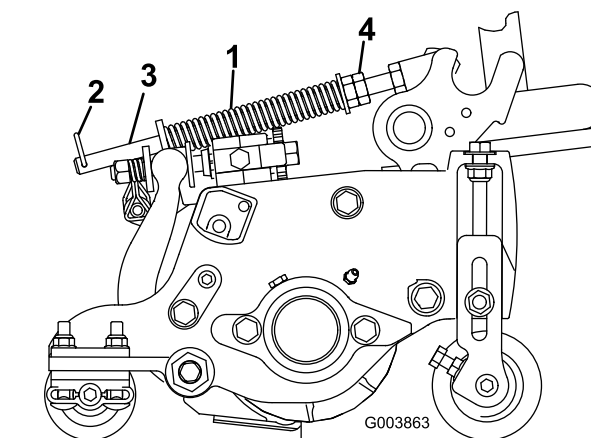

Figure 22
1. Make sure the hairpin cotter is installed in the rear hole in the spring rod (Figure 22).
2. Tighten the hex nuts on the front end of the spring rod until the compressed length of the spring is 15.9 cm (6.25 inches) (Figure 22).